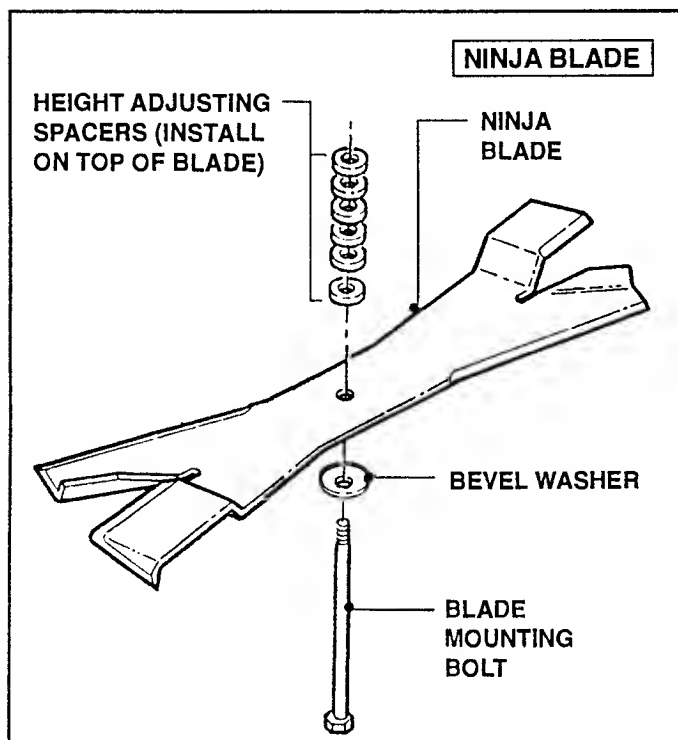

FIGURE 9.8
- Install all Spacers on top of Blade. See Figure 9.8.